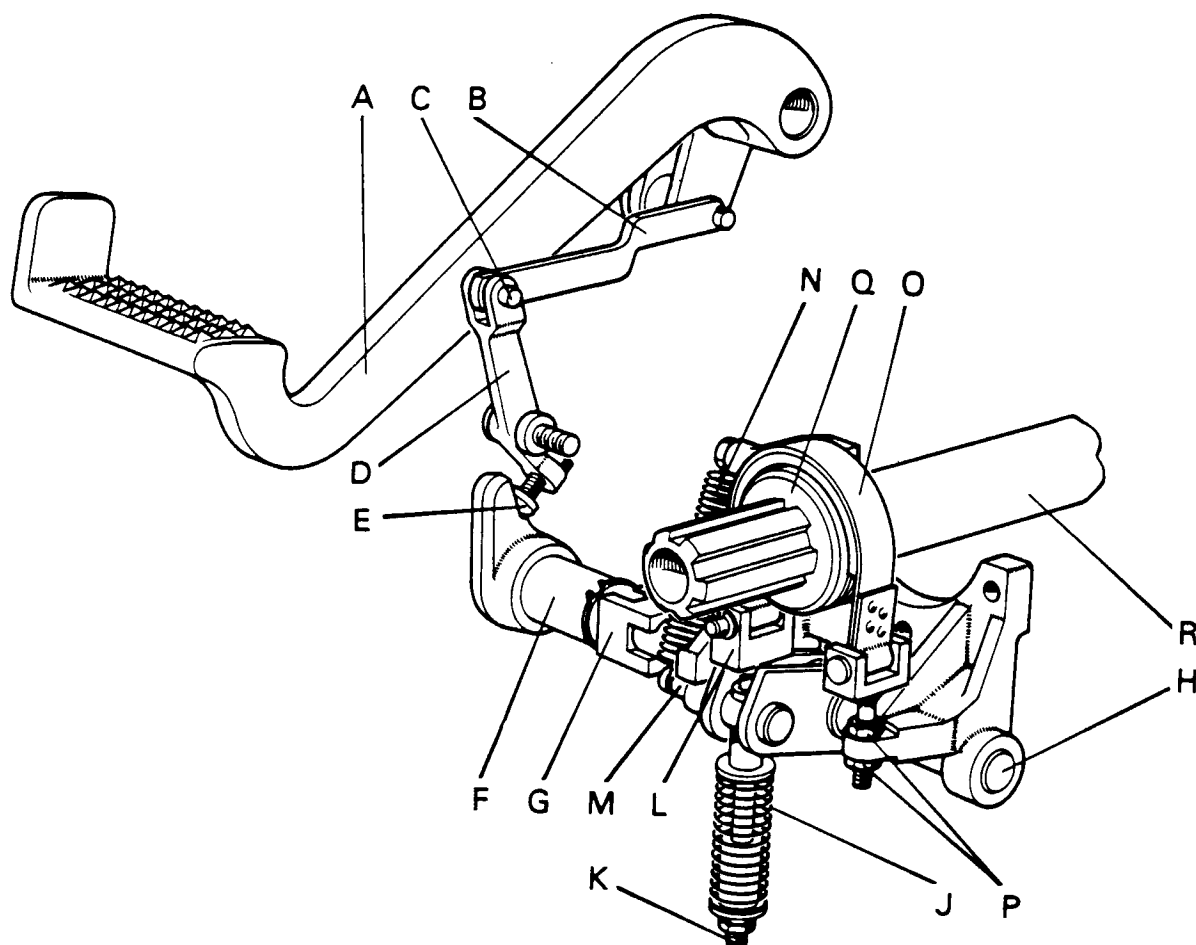

Figure 32. CLUTCH STOP — 990/880/780 LIVEDRIVE TRACTORS
**Internal Setting (except 1200):** Disconnect pedal linkage by removing clevis pin C (Fig. 32) from connecting link and check that long stud K is nearly flush with internal face of large fork-end L.